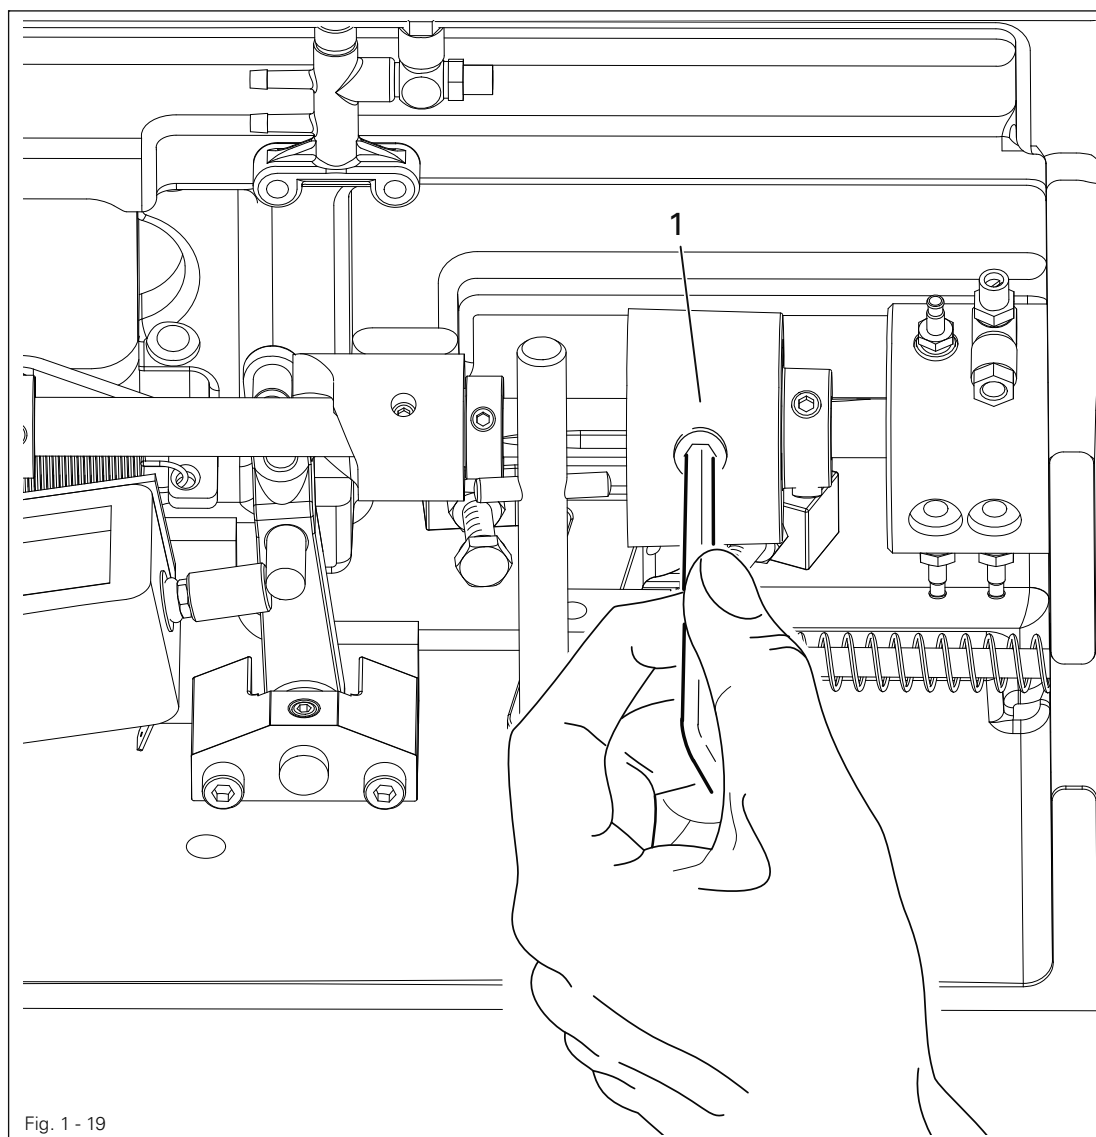

Fig. 1 - 19
- Hold clutch 1 firmly, as shown in Fig. 1 - 19, and turn the balance wheel until clutch 1 re-engages.